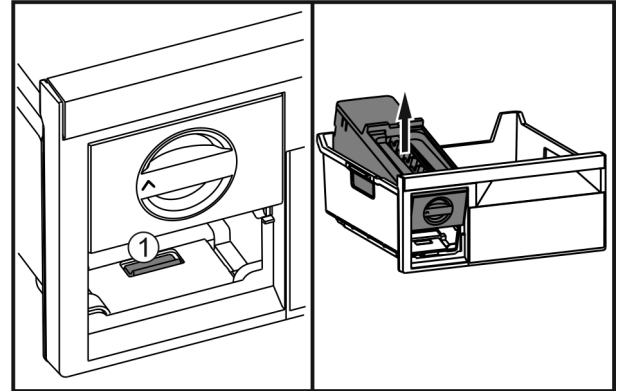

Fig. 38
- ▶ Press the lug *Fig. 38 (1)*, lift up the EasyTwist-Ice at the rear and take it out of the freezer drawer.